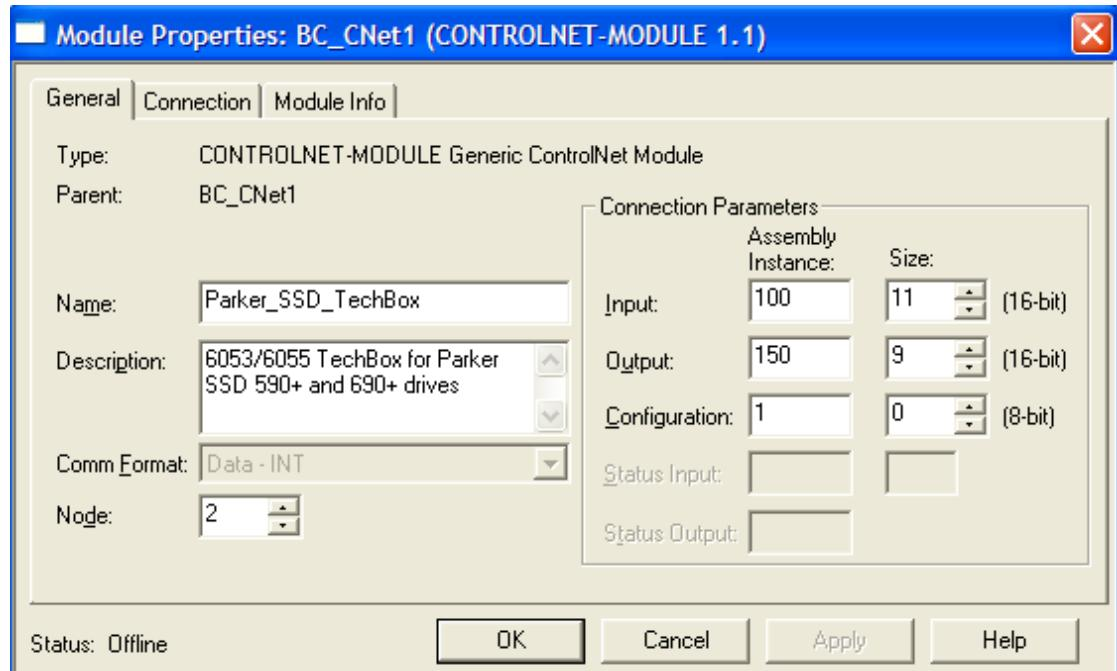

Figure 12. Defining the Module Name and Data Size
4. Module properties window allows you to name the module and to set the network address, data type (data-int), and data size. The input assembly instance is 100 and the size is the configured number of words plus 2. The output assembly instance is 150 and the size is the number of words you are sending to the TechBox. The configuration assembly instance is 1 and the size is 0. The Comms Format is set for “DATA-INT” to allow transferring 16 bit words. Refer to Figure 12.